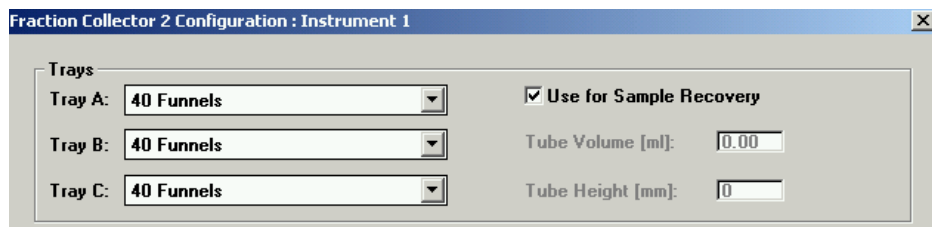

Figure 18 Sample Recovery Fraction Collector
- The preferred recovery strategy is to install multiple fraction collectors in your LC systems and use the last of those fraction collectors for recovery. This recovery fraction collector can be selected in the Configuration dialog box as displayed in Figure 18. The fourth fraction collector in your systems will always be used for sample recovery. Also read “Configuring multiple fraction collectors” on page 14.